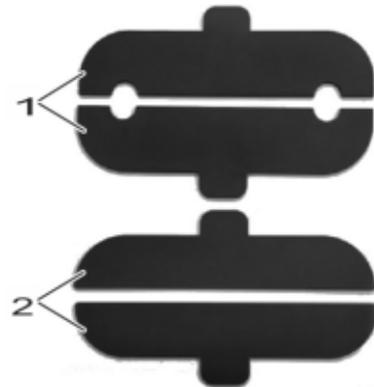

Figure 20
- ⇒ **Figure 20 -1-** – Always place the insert with circular cut-out on the front-axle measuring table
- ⇒ **Figure 20 -2-** – Always place the straight insert on the rear axle measuring table